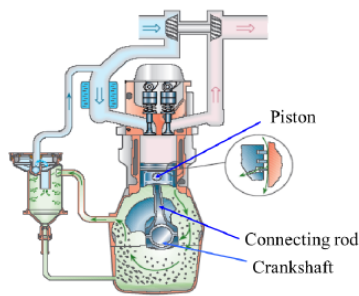

Figure 1.2
- Figure 1.2 - The mostly used mechanism is composed of a **piston** connected to a **crankshaft** via a **connecting rod**. The crankshaft converts the reciprocating movement into a rotating one.